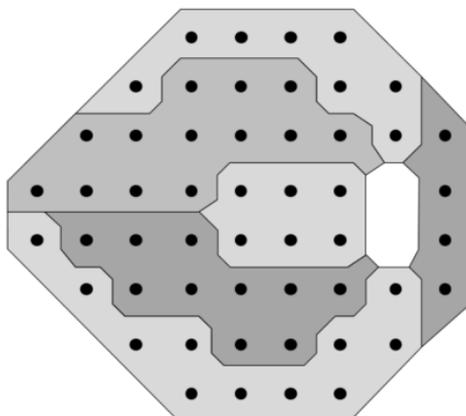

Fig. 54 – Stimuli of the 24-2 pattern grouped in clusters⁶
6. Mean Deviation (MD), Pattern Standard Deviation (PSD) and Fundus Perimetry Deviation (FPDI) indices, plus information if the Tracking was enabled during the entire exam
7. Cluster MDs (dB) (see clusters identification in Fig. 54)